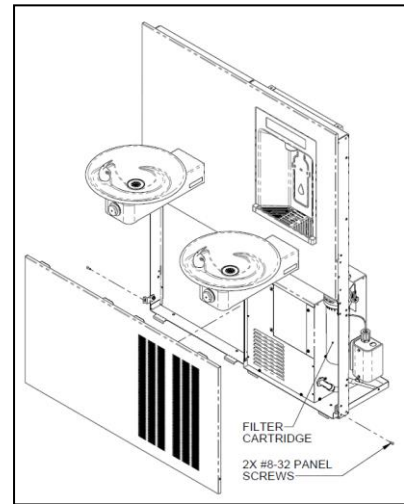

Figure 2 Filter Replacement
- Remove the (2) lower panel screws (T20 Torx). Then remove the lower panel by sliding down and away from the unit.
- Remove filter by turning about ¼ turn clockwise (as viewed from above) and pulling downward. See Figure 2.